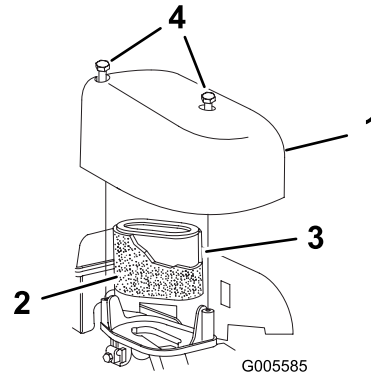

Figure 18
3. Remove the screw that secures the air cleaner cover (Figure 18).
4. Remove the cover and clean it thoroughly (Figure 18).
6. Wash the pre-cleaner with a mild detergent and water, then blot it dry (Figure 18).
7. Remove the paper air filter and discard it (Figure 18).
8. Insert the new paper air filter into the foam pre-cleaner (Figure 18).